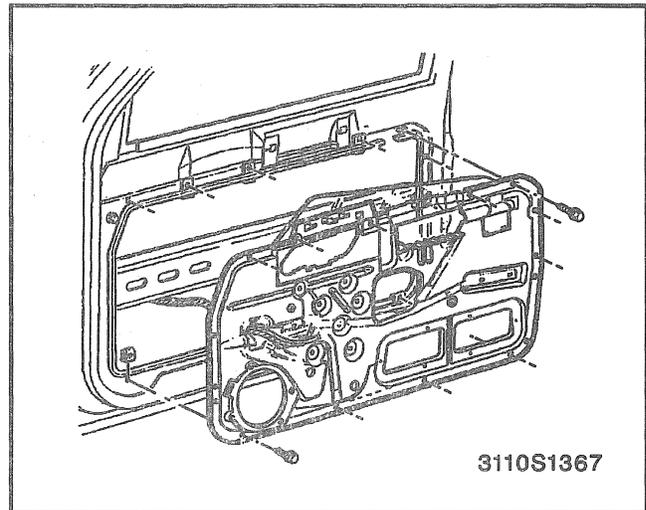

Figure 24—Front Door Inner Mounting Panel Assembly
Remove or Disconnect (Figures 24 through 26)
4. Inner panel bolts (Figure 24).
Install or Connect (Figures 24 through 26)
5. Inner panel bolts (Figure 24).